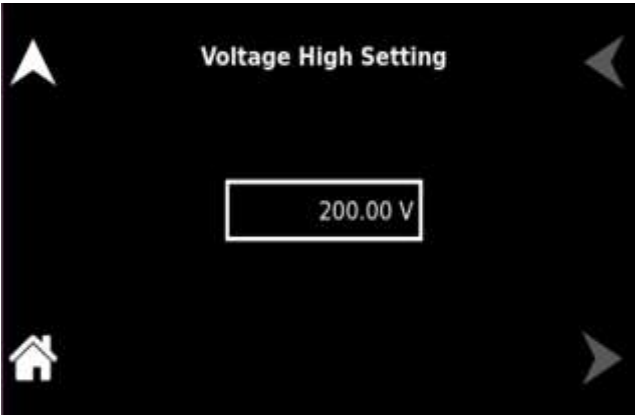

Figure 8-26. Voltage High Setting
**Voltage High Limit**      User can set the voltage high limit value, and it regulates upon reaching the Voltage High Limit. Refer to Figure 8-26.